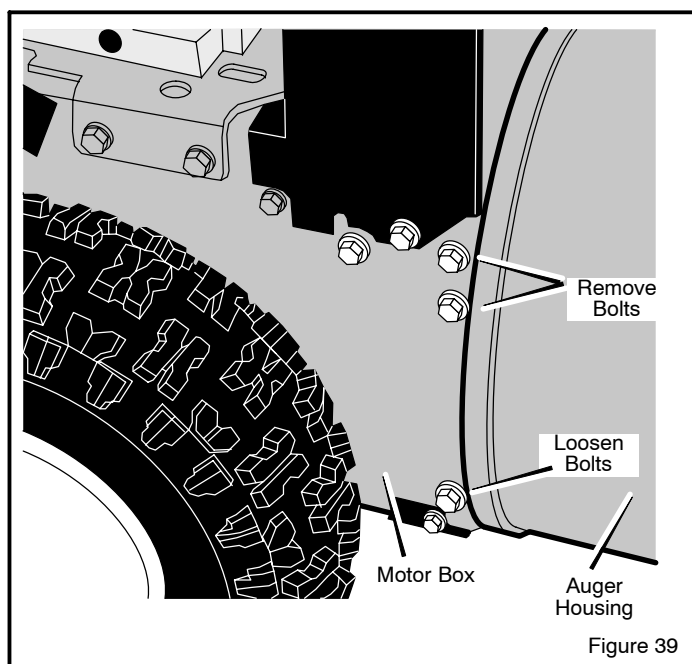

Figure 39
8. Remove the top four **bolts** that hold together the **auger housing** and the **motor box**. Loosen the bottom two **bolts**. The **auger housing** and the **motor box** can now be split apart for removal of the belt (see Figure 39).